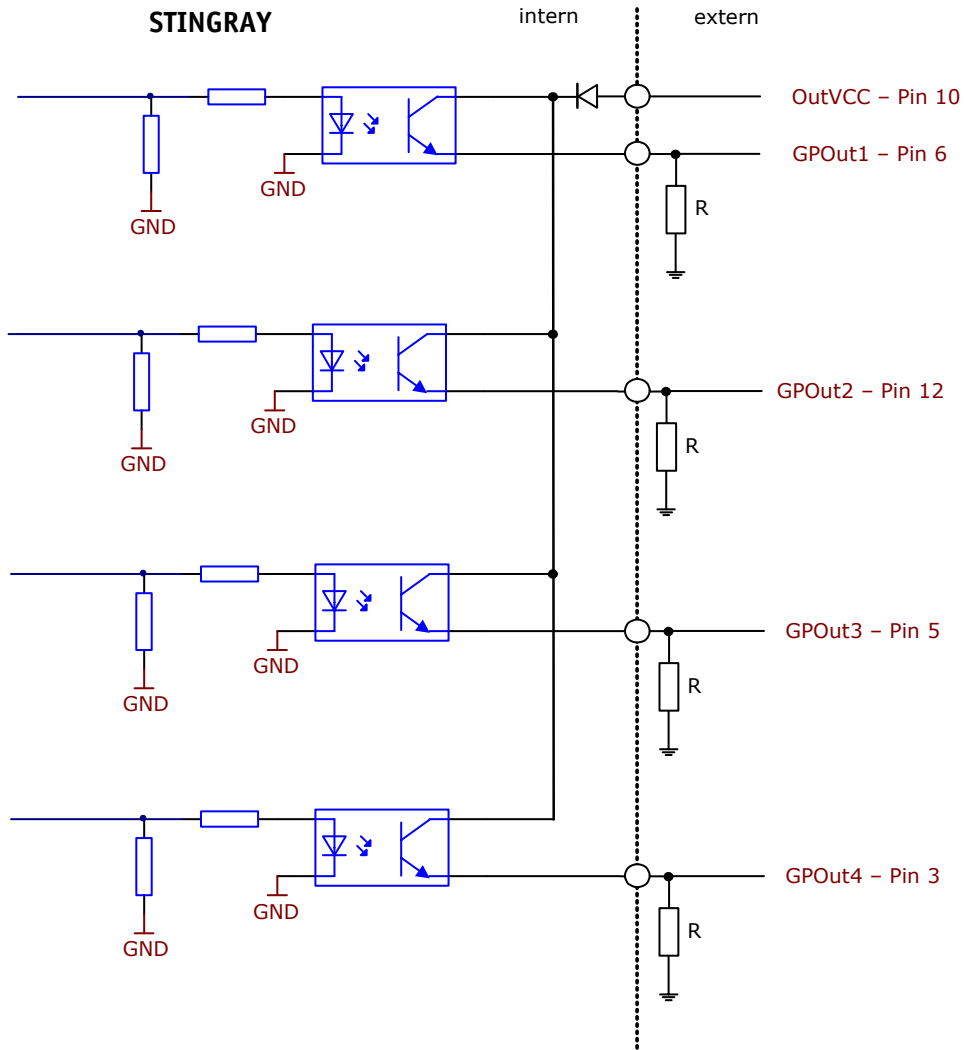

Figure 38: Output schematics with external resistors R (pin no. from camera I/O connector) (STINGRAY)
- Depending on the voltage applied at OutVCC and the type of input which you want to drive, it may be necessary to switch an external resistor in series between GPOut1...4 and ground. See Figure 38: Output schematics with external resistors R \(pin no. from camera I/O connector\) \(STINGRAY\) on page 59.